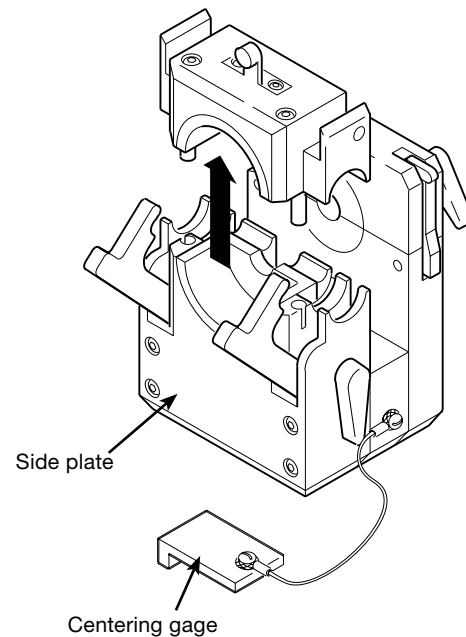

Figure 23 Removing the Top of the Side Plate
3. Turn the fixture block upright and remove the tops of the CWS-5FSP2 Side Plates. See Figure 23.